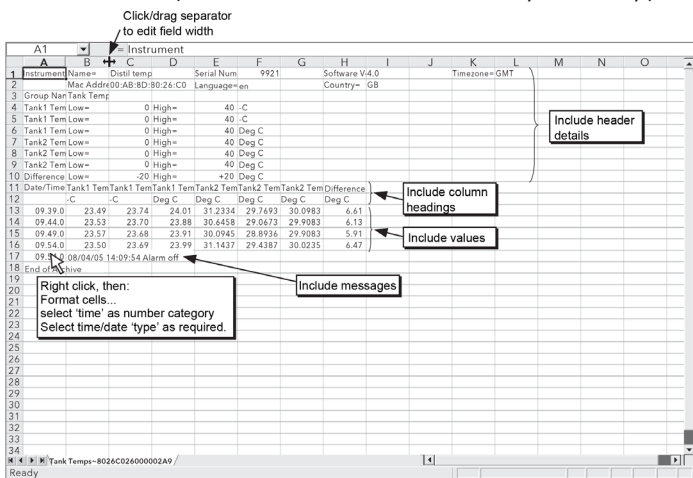

Figure 4.2.2b CSV data example
**CSV Values** Appears only if 'File Format' is set to 'CSV' or 'Both'. If 'Yes' is selected, then process values are included in the file (see figure 4.2.2b for details).
**CSV Messages** Appears only if 'File Format' is set to 'CSV' or 'Both'. If 'Yes' is selected, then messages are included in the file (see figure 4.2.2b for details).
**CSV Headers** Appears only if 'File Format' is set to 'CSV' or 'Both'. If 'Yes' is selected, then Header details are included in the file (see figure 4.2.2b for details).
**CSV Headings** Appears only if 'File Format' is set to 'CSV' or 'Both'. If 'Yes' is selected, then column headers are included in the file (see figure 4.2.2b for details).